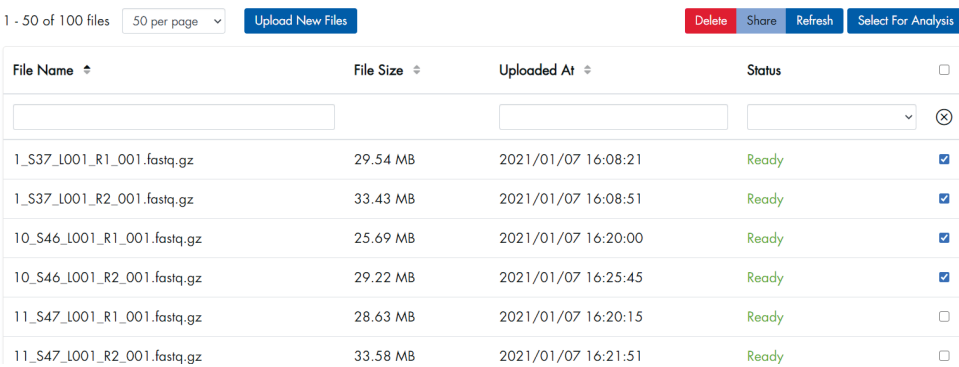

Figure 20. File selection for QIAseq Targeted DNA Panel data analysis pipeline
- Select the boxes next to the files that will be analyzed, and then click **Select For Analysis** (Figure 20).